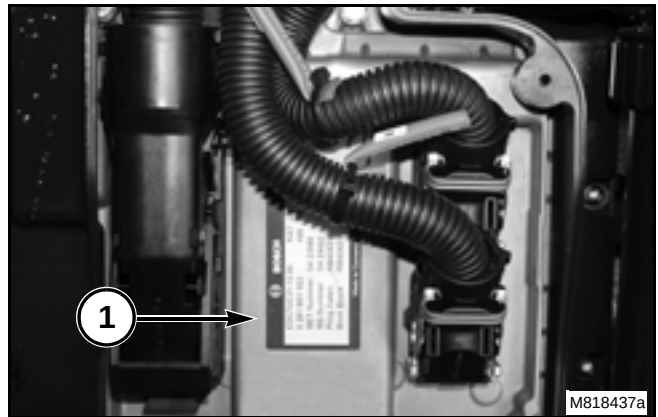

FIG. 36
FIG. 36: The Electronic Control Module (ECM) dataplate (1) shows important information about the ECM and how the ECM is programmed. The dataplate is located on the ECM right of the ECM connectors under a protective cover.